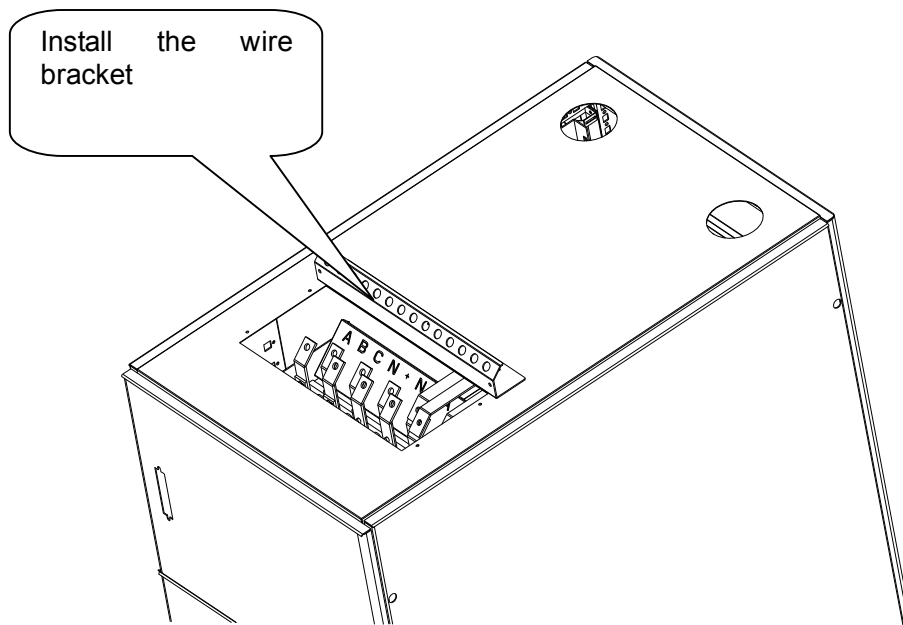

Fig. 6.4
2. Fix the wire bracket on the top cover board of the cabinet with a self tapping screw. ( Fig. 6.4 )